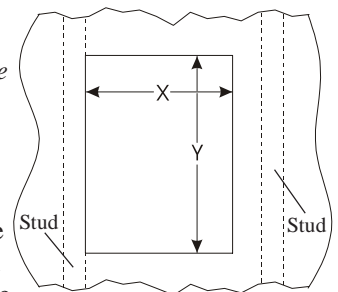
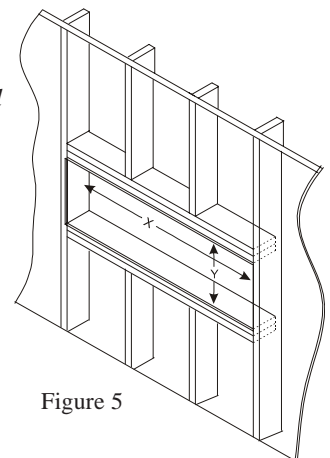

Figure 4
Figure 5
3. Use a suitable wall stud finder or metal detector to verify a proper mounting location for the Loudspeaker System before cutting into the wall. The XLS320 and XLS340 are designed for mounting between vertical wall studs with 16 inch (40.64cm) centers. Refer to figure 4. The XCS350 is designed for mounting horizontally in a special prepared opening. Refer to figure 5.